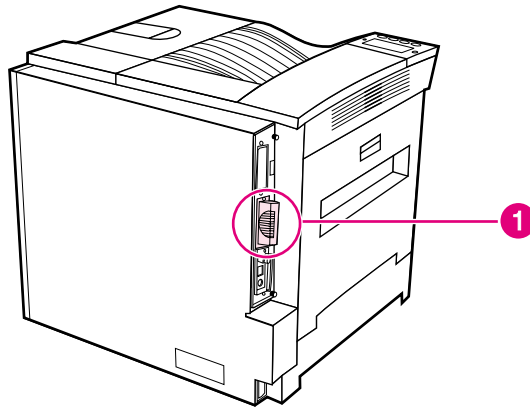

Figure 6-2
- 2 Loosen the 2 captive screws, and remove the disk drive from slot #2 (figure 6-2, callout 1).
- 2 Install the disk drive in slot #2 (figure 6-2, callout 1), and tighten the 2 captive screws.